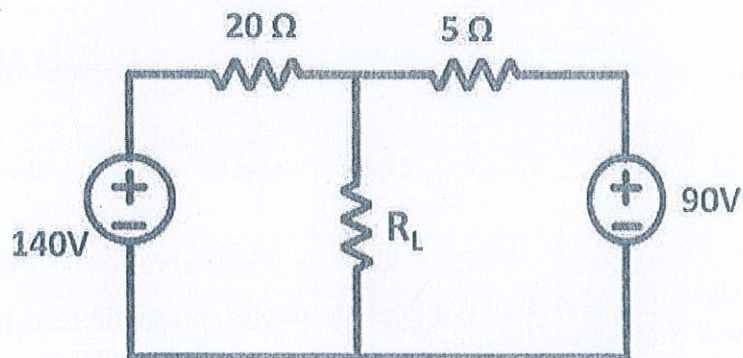

Figure 4
4. The value of the load resistor of figure 4 is set to 25 Ohm. Prove that this resistor is not going to draw maximum power. What is the possible maximum power that can be drawn by R_L ? [15+10]